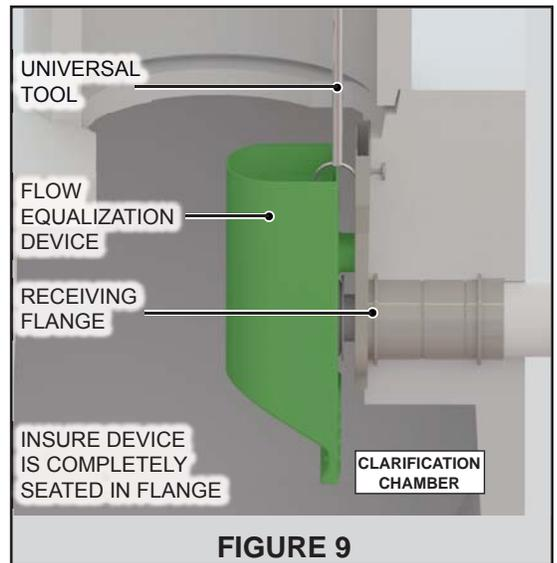

FIGURE 9
15. Install the flow equalization device by sliding it into the tank receiving flange in the clarification chamber as shown in Figure 9. Use the universal tool to insure the device is completely seated in the flange.